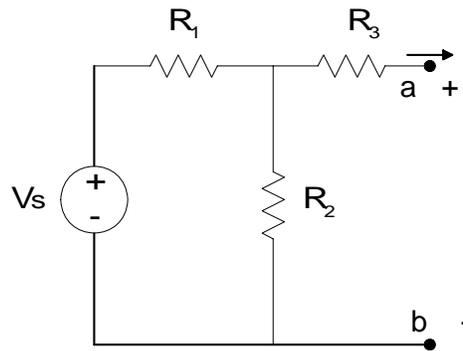

Fig. 1. Experimental arrangement.
1. Construct the circuit shown in Figure 1, where  $R_1 = 1.2 \text{ k}\Omega$ ,  $R_2 = 2.4 \text{ k}\Omega$ , and  $R_3 = 4.7 \text{ k}\Omega$ . Set the supply at 8 V. Perform the following measurements: